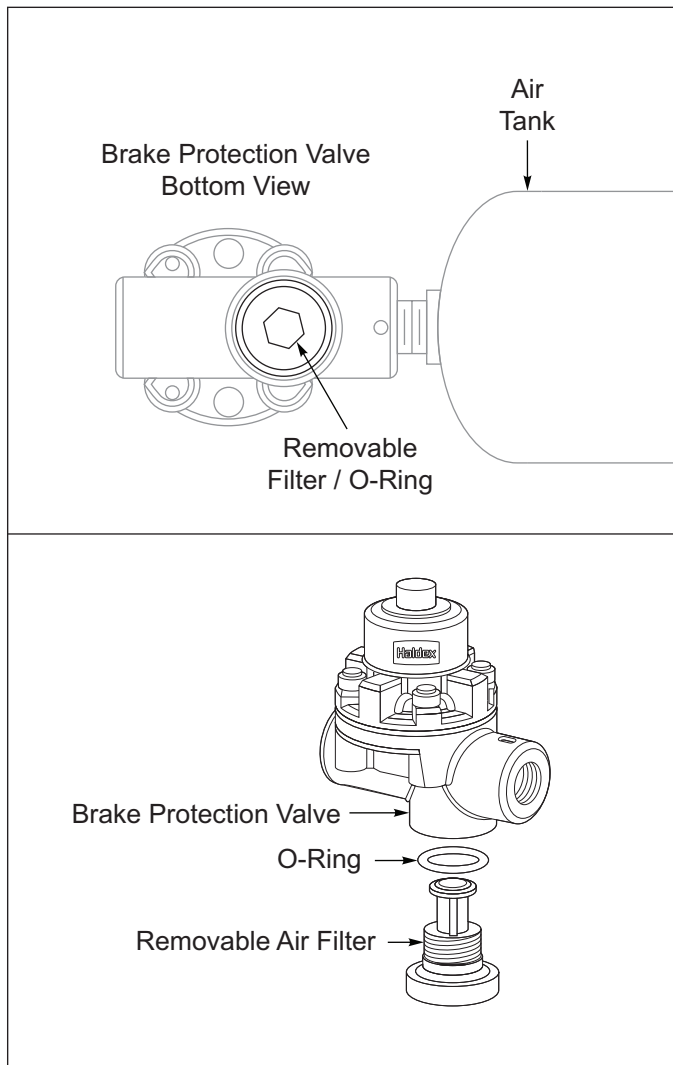

Figure 4-3: Brake Protection Valve Filter
3. Check the brake protection valve filters every 3 months or when the air flow becomes restricted, See Figure 4-3.